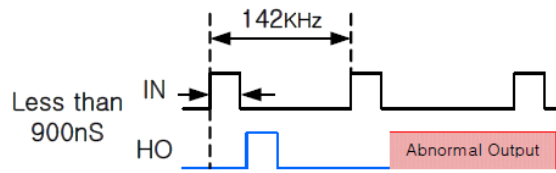

Figure 5. Abnormal Output Waveform with Pulse Width
6. When VDT = 1.2 V. Refer to Figures 5, 6, 7 and 8.